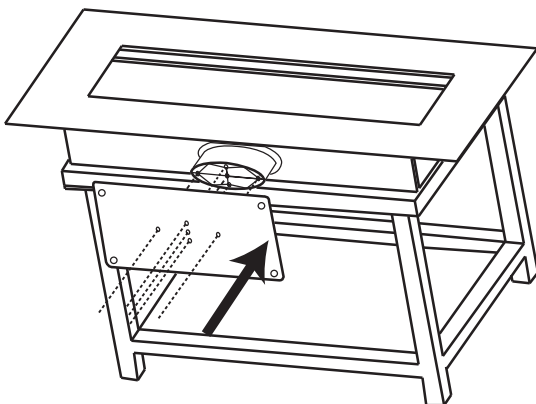

Fig. 3
- Prepare the glass base and ensure that the rubber feet of the glass base are facing away from the appliance (**Fig. 3**).